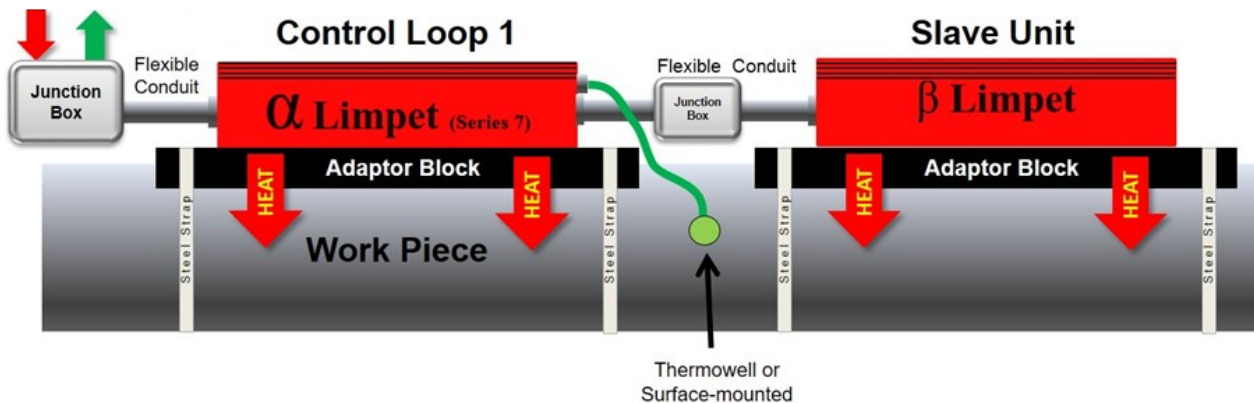

Figure 5 — Series 7 AlphaLimpet driving a slave BetaLimpet and with a second control loop connected to an external sensor
- Alternatively, if the situation arises, the second control loop sensor can be used as an external sensor instead of using the sensor built in to the BetaLimpet, as shown in Figure 5 below.